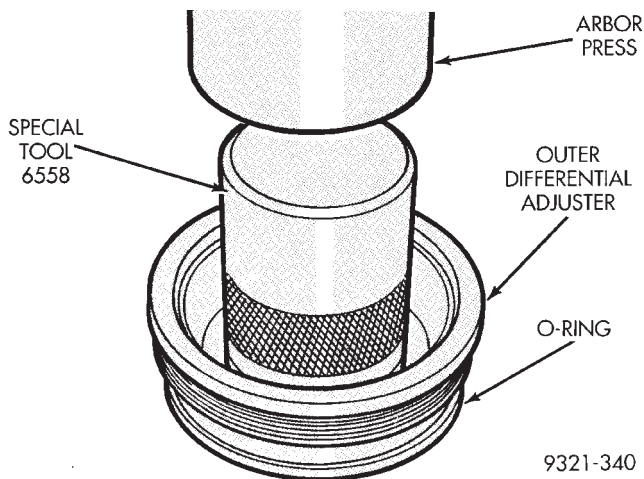

Fig. 264 Axle Shaft Seal Installation
(21) Remove old stub shaft seals. Press inner adjuster seal out with special tool 6502B. Press outer adjuster seal out with special tool 6558.
(22) Install new stub shaft seals in both adjusters using special tool 6558 (Fig. 264).